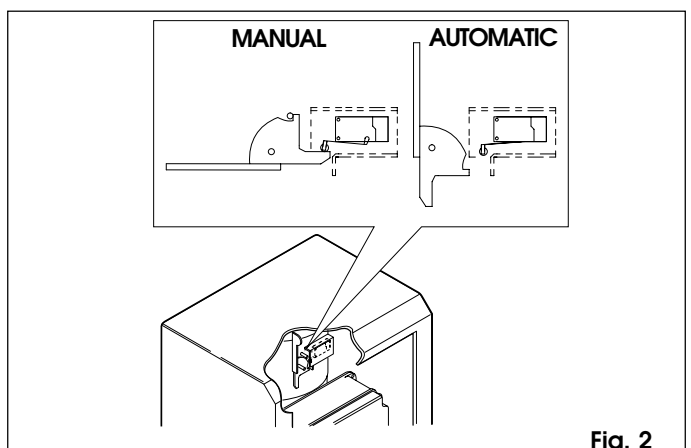

Fig. 2
- A safety microswitch in the release system prevents the automation from being activated by accidental commands (7, fig. 2).
- Operate the release lever shown in fig. 2 (pos. MANUAL).
- Move back the lever shown in fig. 2 up to the mechanical stop (pos. AUTOMATIC).